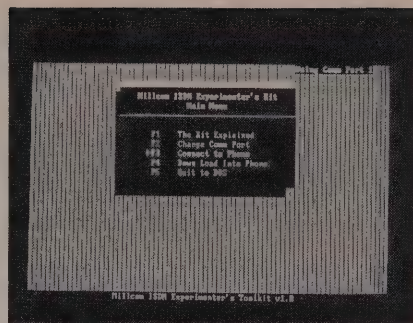

FIG. 12—THE MENU SCREEN from MILLCOM.EXE.
On the free side, a "tool kit" containing an executable program called MILLCOM.EXE, hex files, and communications software, is available on the R-E BBS (516) 293-2283; the tool kit is called MILLCOM.ARC. The hex files can be downloaded into the Millcom board, using the executable file. The main menu screen from MILLCOM.EXE is shown in Fig. 12.